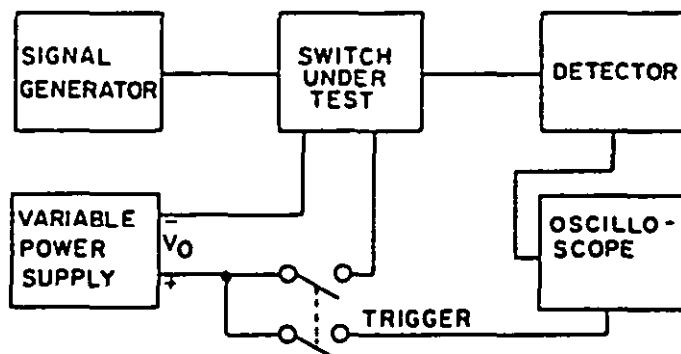

FIGURE 4. Switching time test setup.
4.7.8 Switching time (see 3.5.7). For electrically operated switches, the switching time from both the energized and deenergized positions shall be measured, using the test setup of figure 4. With the switch at room ambient temperature, apply RF and dc power and measure the time lapse between application of dc actuator power and final positioning of the RF portion of the switch for the position selected. Measure the time lapse for the switch to go from an energized position to a deenergized position. Repeat these tests for each electrically selected position of the switch.